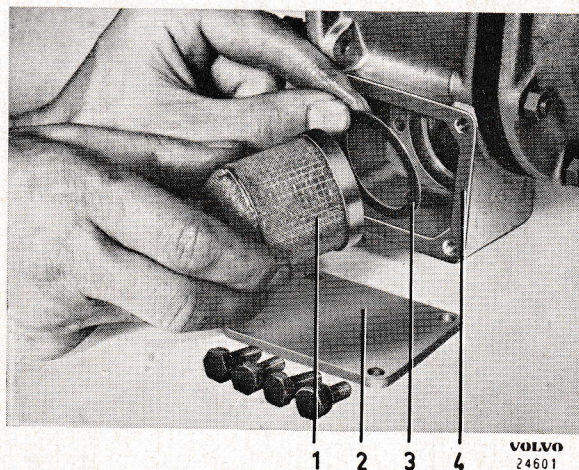

Fig. 7. Removing the oil strainer
1. Remove the cover (2) and take out the oil strainer (1), see Fig. 7. Clean the oil strainer in gasoline or white spirit. Blow dry with compressed air.
2. Check that the gasket (3) is intact and place it in position. Fit the oil strainer, new gasket (4) and cover.